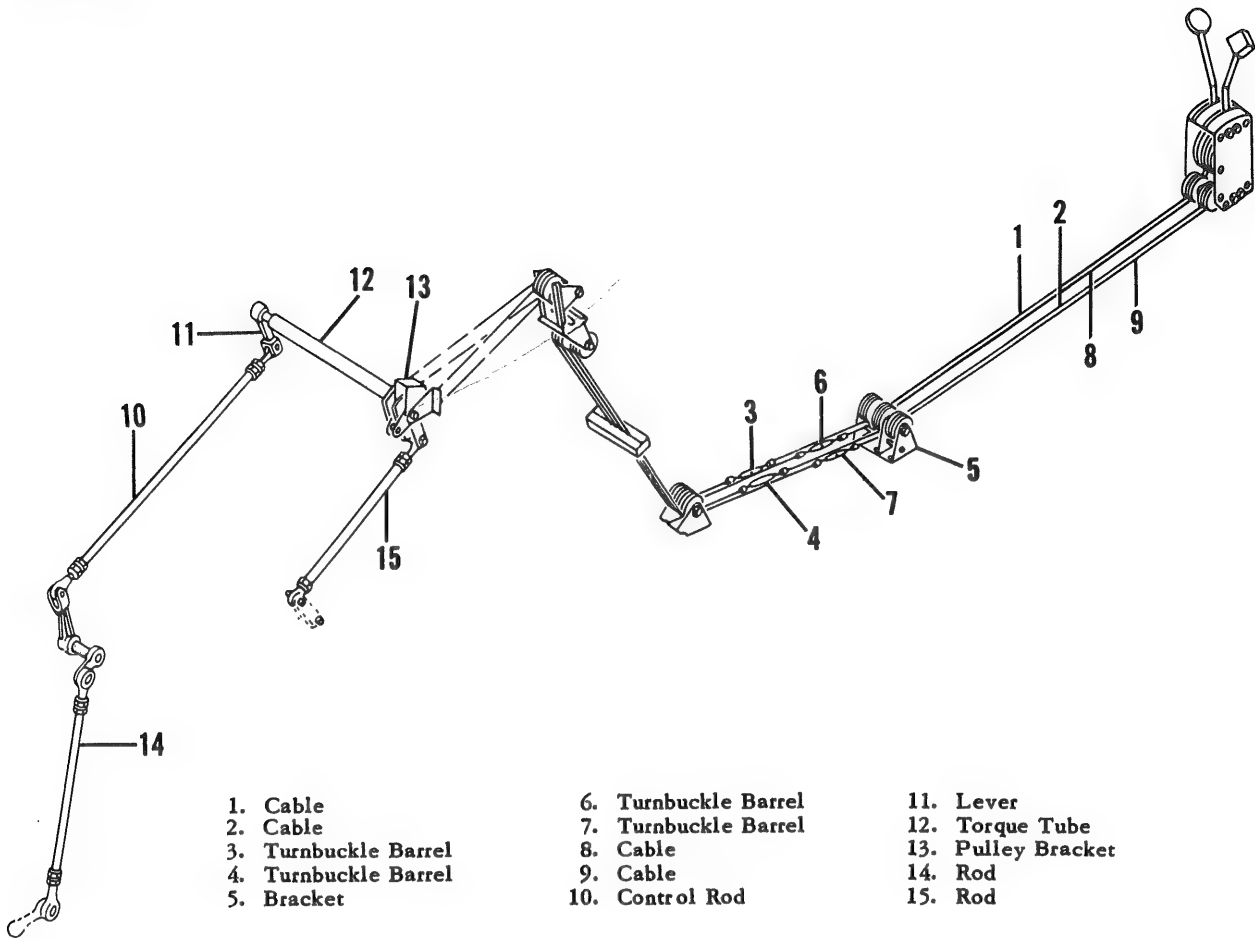
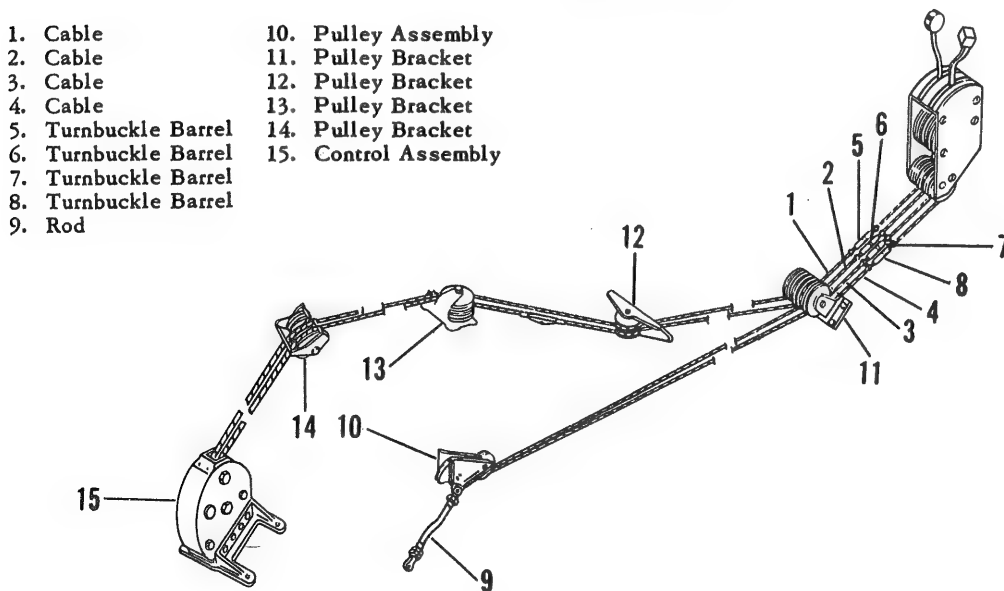

Figure 3-65. Carburetor Mixture and Carburetor Air Temperature Control System (Helicopters Serial No. Prior to 55-4462)
Figure 3-66. Carburetor Mixture and Carburetor Air Temperature Control System (Helicopters Serial No. 55-4462 and Subsequent)
3-277. REMOVAL. (See figures 3-65 and 3-66.)
a. On helicopters serial No. prior to 55-4462, disconnect cables (1 and 2, figure 3-65) at turnbuckles (3 and 4).
b. On helicopters serial No. 55-4462 and subsequent, disconnect cables (1, 2, 3, and 4, figure 3-66) at turnbuckles (5, 6, 7, and 8) and remove mixture and carburetor heat pulleys and cables from bracket (5, figure 3-65).
d. Push cables (1, 2, 8, and 9, figure 3-65 and 1, 2, 3, and 4, figure 3-66) toward rear of control pedestal.
e. On helicopters serial No. prior to 55-4462, pull cables (1, 2, 8, and 9, figure 3-65) forward and install pulleys in bracket (5).
g. On helicopters serial No. 55-4462 and subsequent, pull cables (1, 2, 3, and 4, figure 3-66) forward and fasten into systems at turnbuckles (5, 6, 7, and 8).
a. Remove control rod (10, figure 3-65) from lever (11) on torque tube (12) at top of canted bulkhead.
c. Insert 0.186-inch diameter flathead pin through hole in pulley assemblies in pulley bracket (13).
a. Loosen or remove turnbuckles (5 and 6, figure 3-66) located inside console in pilots' compartment.
d. Adjust turnbuckles (5 and 6, figure 3-66) to produce equal tension of 25 to 30 pounds on each cable, using cable tensiometer, Pacific Scientific part No. T5-3001-104-00. Secure turnbuckles with lockwire.
g. Remove rod (9) from pulley assembly (10) at canted bulkhead.